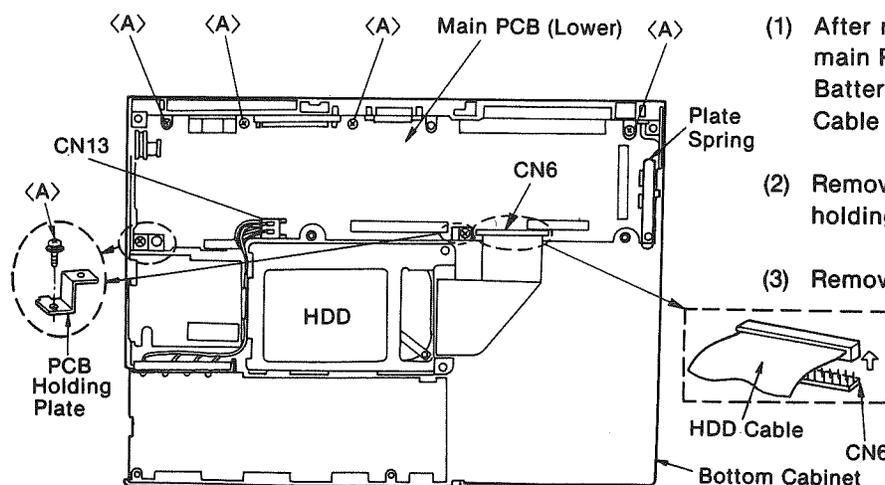

Figure 20
- (1) After removing the top case, the keyboard, the main PCB (Upper), and the FDD, disconnect the Battery Pack Connector (CN13) and the HDD Cable Connector (CN6) as shown in Figure 20.
- (2) Remove six screws <A> ( $3 \times 7$  mm) and two PCB holding plates as shown in Figure 20.
- (3) Remove the plate spring as shown in Figure 20.